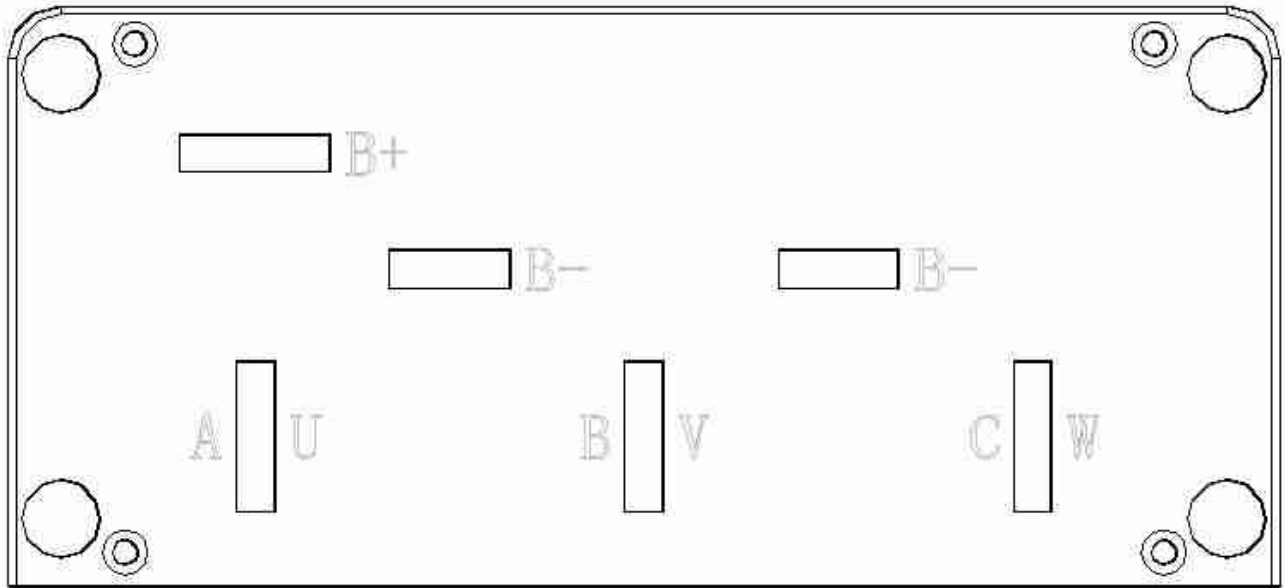

Figure 7: Front panel of HP motor controller
3.2.2 Front Panel and back panel of HP Motor Controller: Seven metal bars in front panel and two plugs (J1, J2) in back panel are provided for connecting to the battery, motor and control signals shown as Figure 7, 8 and 9.